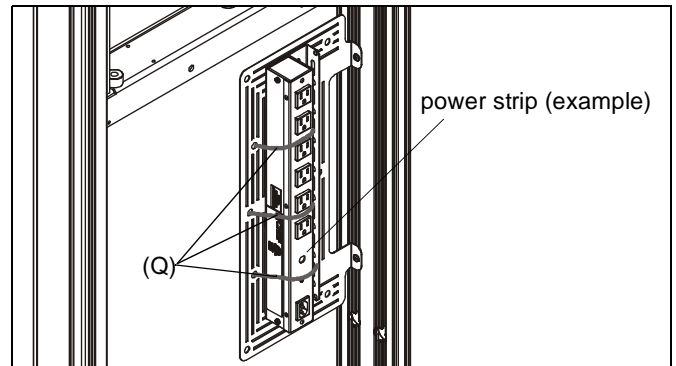

Figure 9
**WARNING:** Exceeding the weight capacity can result in serious personal injury or damage to equipment! It is the installer's responsibility to make sure the combined weight of all accessories and components installed to the component bracket (C) does not exceed 10 lbs (4.54 kg). Exceeding the weight capacity may result in damage to the equipment or components!
5. Install components to component bracket as desired using cable ties (Q), cable clips (U) or screws. (See Figure 9)